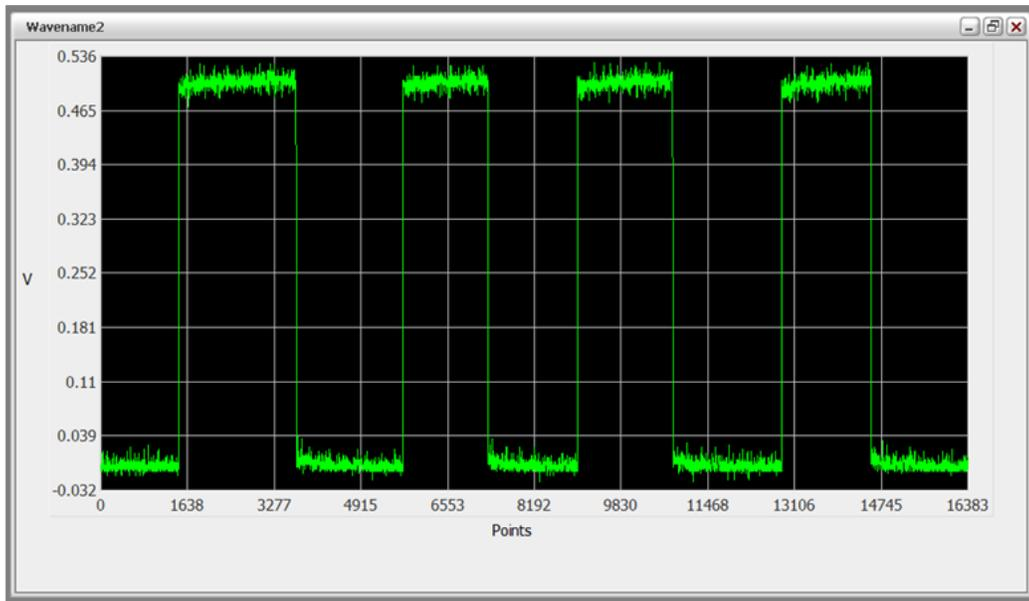

Figure 6: The waveform imported from the WaveAce oscilloscope as seen in the WaveStation software
5. A window will open in the WaveStation software showing the waveform imported from the WaveAce oscilloscope as shown in Figure 6.